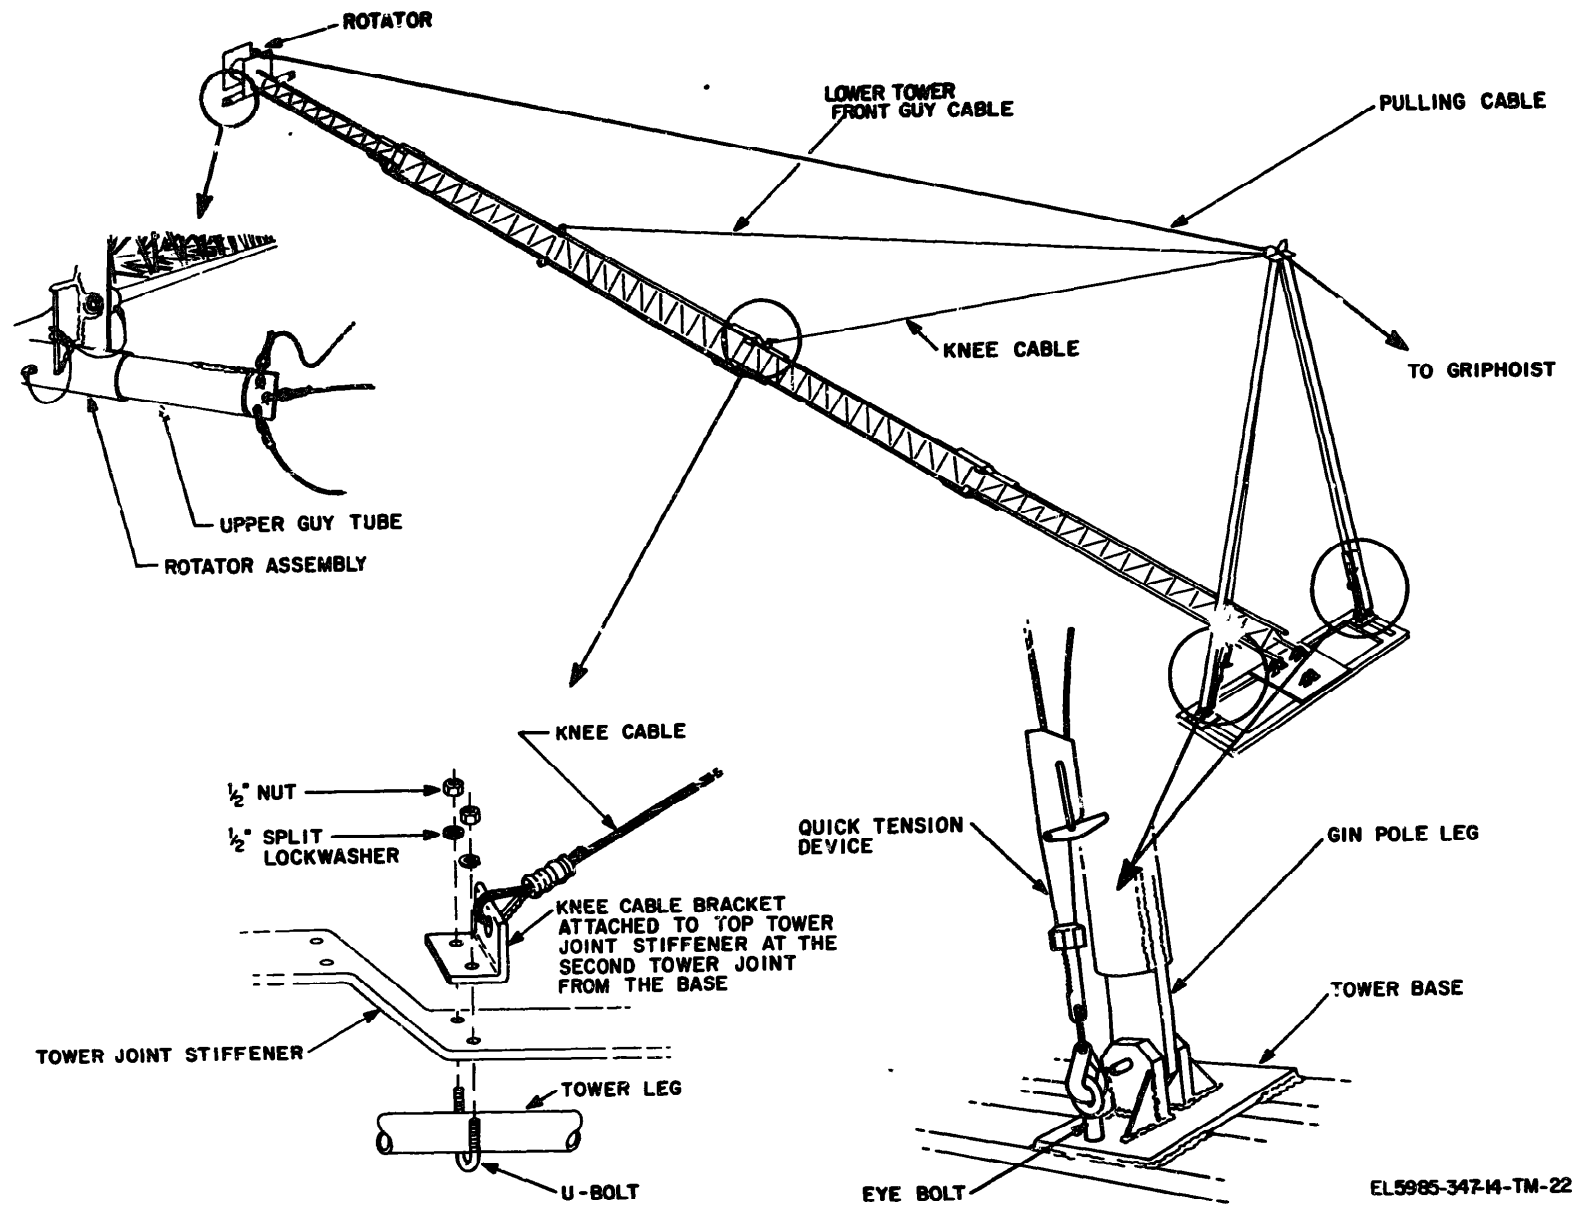

Figure 2-13. Cable attachments to tower.
h. As the tower lies on the ground, install the knee cable bracket into the upper mast leg. Position it at the second tower joint from the base plate. Fasten the bracket under the U-bolts. See figure 2-13.
i. As the tower lays on the ground, install the knee cable bracket (with cable) on the upper mast leg of the second joint from the base plate. Fasten the bracket with the U-bolts exactly as shown in figure 2-13.
i. The quick tension devices on the knee cables attach to the eyebolts on the base plate (fig. 2-13). They provide the adjustment needed to equalize tension between the knee cables and the julling cable. Refer to figure 2-17 for instruction for operating the quick tension devices.